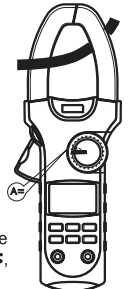

Figure 8
F.Measuring DC Current (See Figure 8)